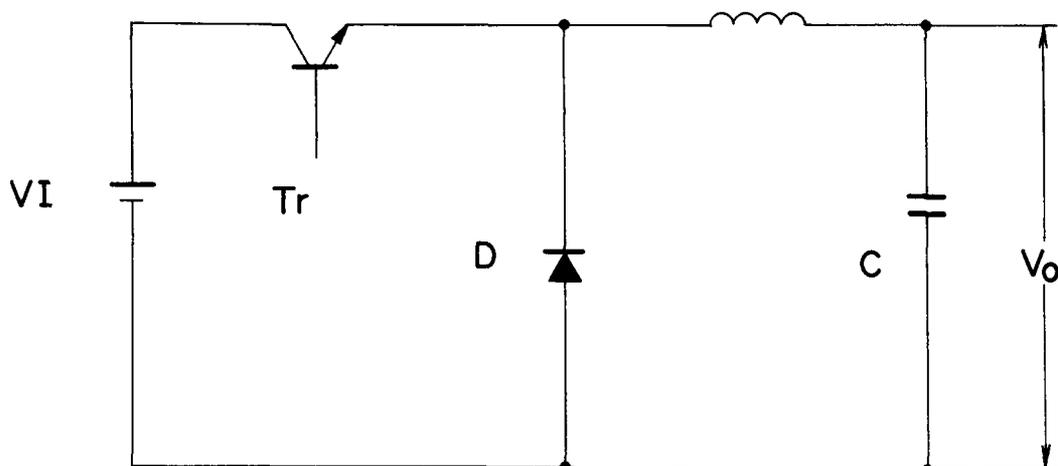

Figure 4-46. 5V equivalent circuit
The Power Supply circuit of 5V output consists of a step-down switching regulator. As shown in Figure 4-46, the circuit has no transformer; the input and output terminals are direct currentwise common. Therefore it is free from the trouble caused by a linkage-inductance and provides a miniaturized and effective Power Supply.
Block ② TR511 is the switching transistor shown as Tr in Figure 4-46.
Block ④ In case TR511 is locked ON for some reason, SCR500 turns on and prevents the input voltage  $V_I$  (Figure 4-46) from directly appearing at the output guiding it to the ground. Thus it protects the connected systems from failure.